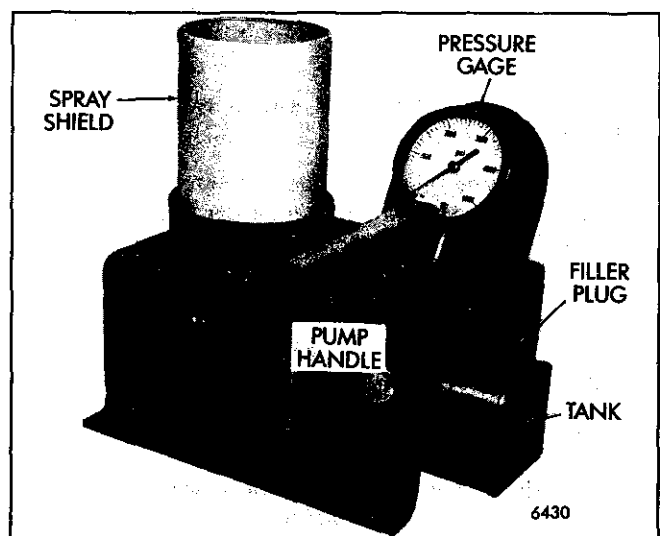

Fig. 6 – Tester J 22640-A with Shield Installed
3. Place the shield on the tester and operate the pump handle until the needle valve has opened several times to purge air from the system (Fig. 6).